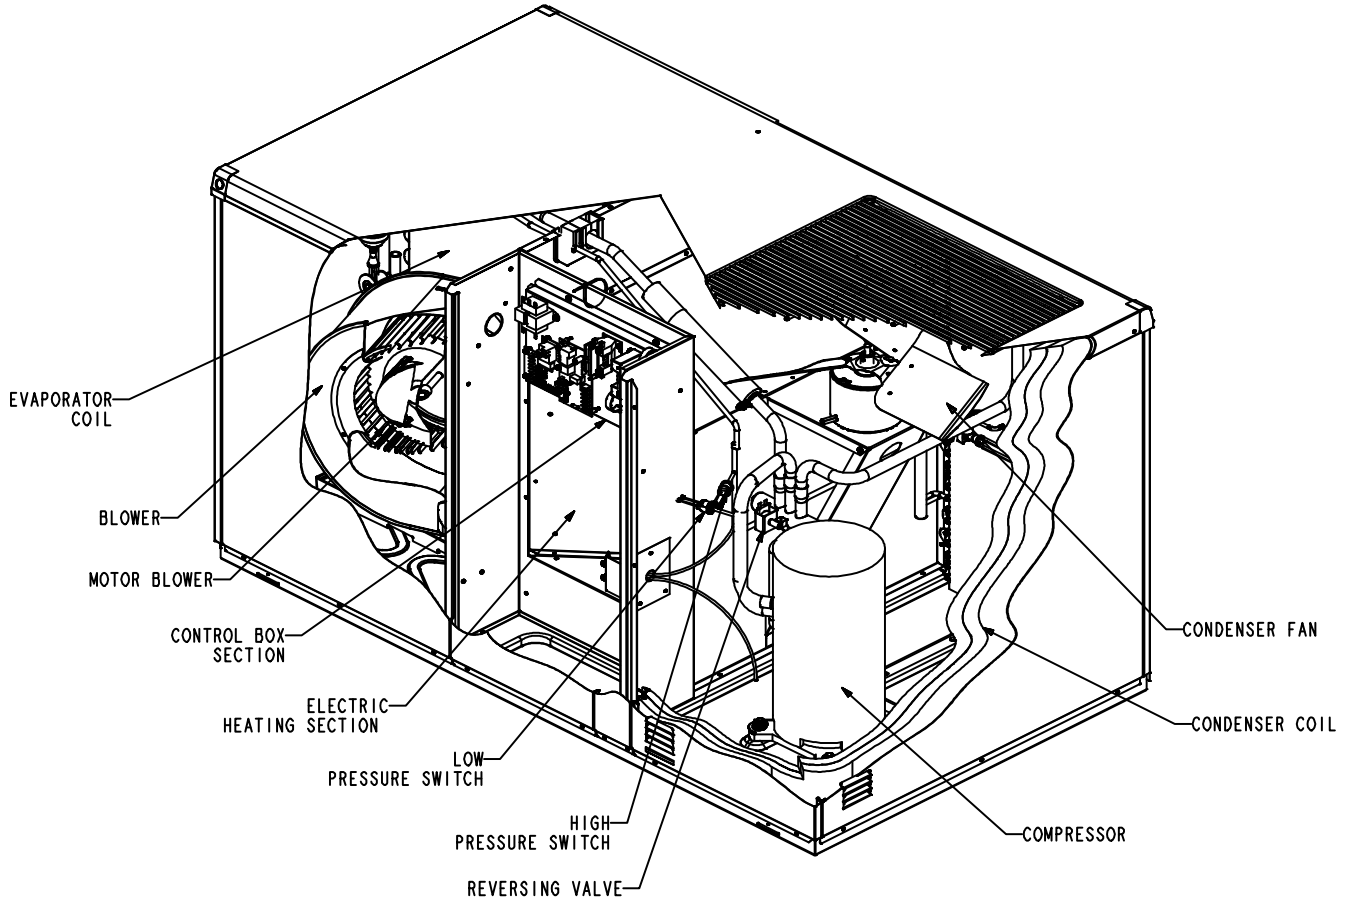
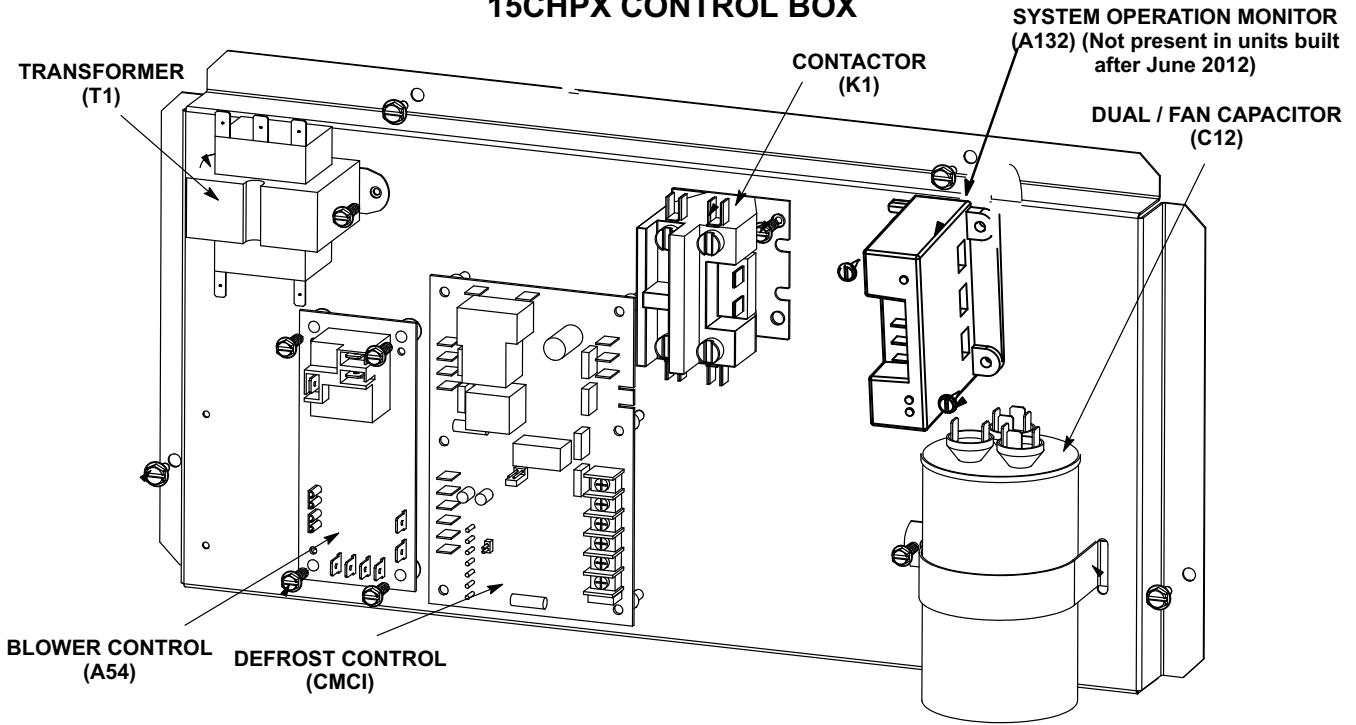

FIGURE 1
FIGURE 2
15CHP(X) components are shown in figure 1. Control box components are shown in figure 2.